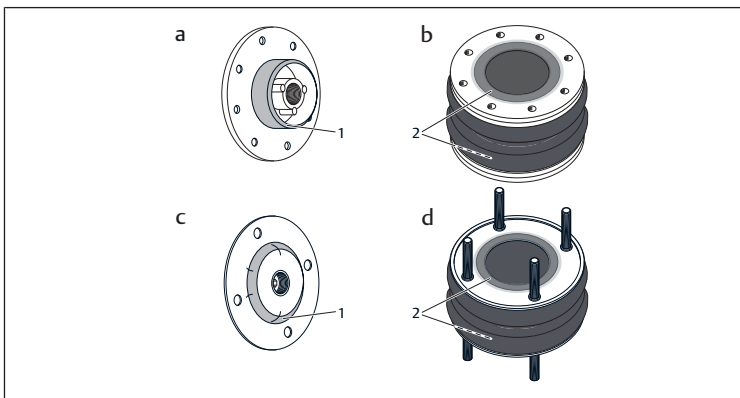

Fig. 2: Cover moistening area (1) | Bellows moistening area (2)
- Before assembly, moisten the openings of the bellows actuator and the rims of the covers with soapy water (see Fig. 2).